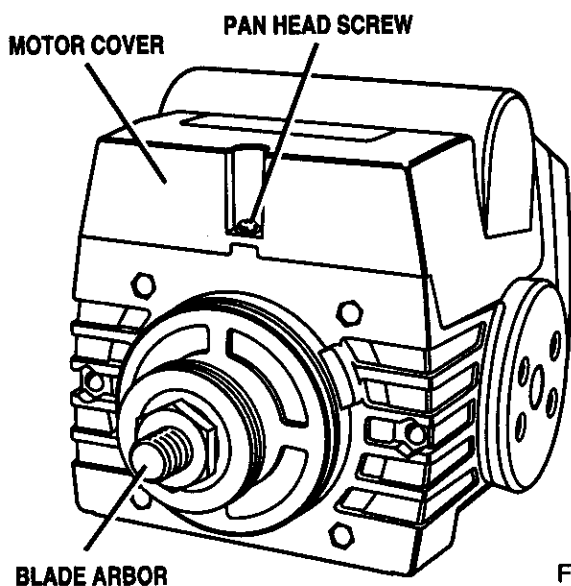

Fig. 2
- Remove the pan head screw above the blade arbor on the motor cover. Lift motor cover to expose switch. See Figure 2.